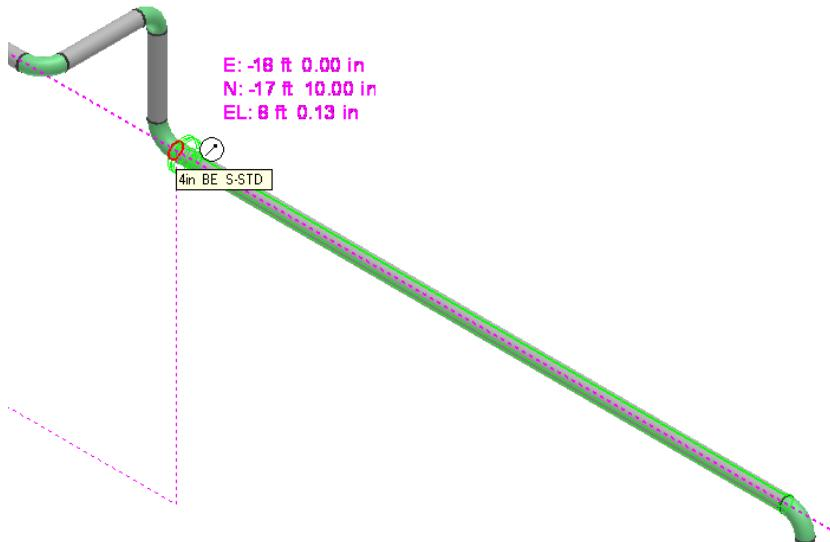

Figure 6: Selecting the End Point of a Pipe Run
35. Select the end point of the **Pipe Straight Feature** to specify the target origin. The position of takedown joint will be specified from this target origin, as shown in Figure 6.